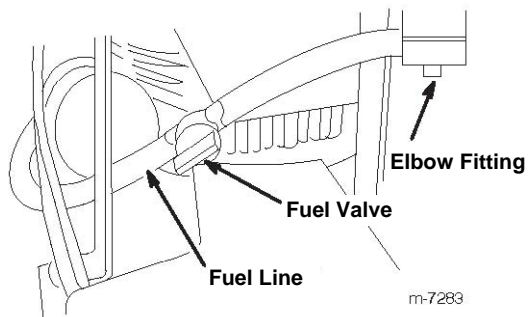

Figure 4
4. Remove the red cap from the end of the fuel line and from the end of the elbow fitting on the fuel tank (Fig. 4).
5. Slide the end of the fuel line onto the elbow fitting (Fig. 4).
6. Secure the fuel line in place with the fuel line clamp (Fig. 4).
For Kawasaki Units: The fuel shut off valve is installed on the fuel line midway between the fuel tank and the engine (See Figure 4).
2. Open the fuel valve (Kawasaki Units: See Figure 4, Honda Units: See Figure 11).